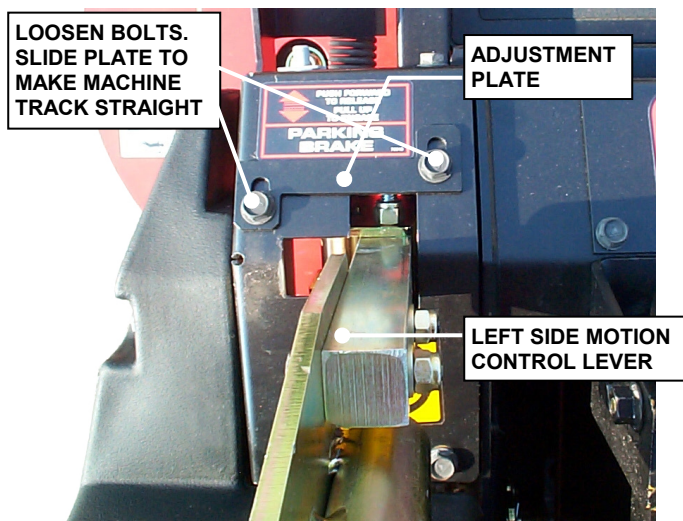

FIGURE 4
- D.** If machine tracks to the left, loosen bolts that secure the right adjustment plate. Move plate rearward to slow the right wheel down. Retighten bolts. See Figure 4.